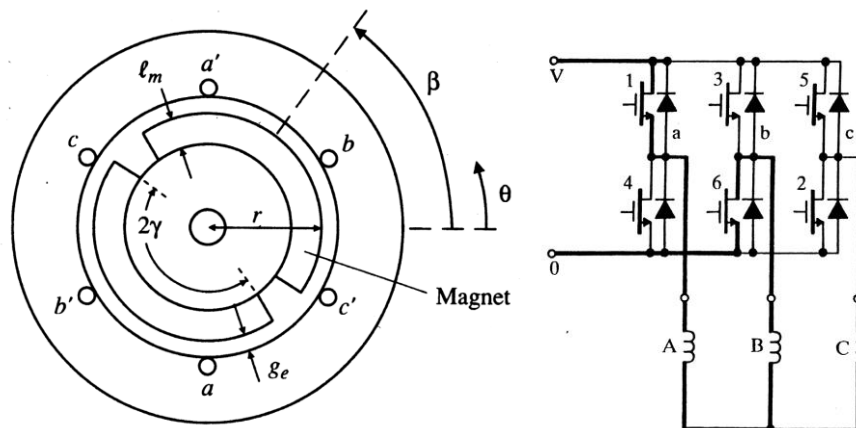

Figure 5
6. A 2-pole brushless-dc motor with surface mounted permanent magnets (as seen in Fig. 5) has a bore radius of  $r=20$  cm, magnet length of  $l_m=5$  mm, magnet arc of  $\theta_m =150^\circ$  ( $=2\gamma$  in Fig. 5), an air gap of  $g_e=0.8$  mm, and an axial length of  $l=10$  cm. Slotting is neglected and the single full-pitch stator coil has 25 turns per phase. The NdFeB magnet has  $B_r=1.3$ T and  $H_c=850$  kA/m. The current in the stator coil is zero.